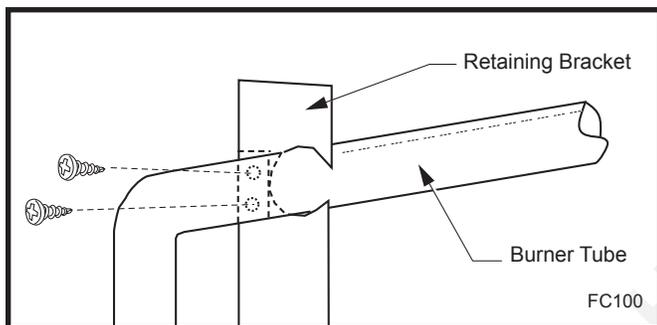

Fig. 17 Remove retaining bracket.
1. Remove the two (2) Phillips head screws from the burner tube retaining bracket. (Fig. 17)